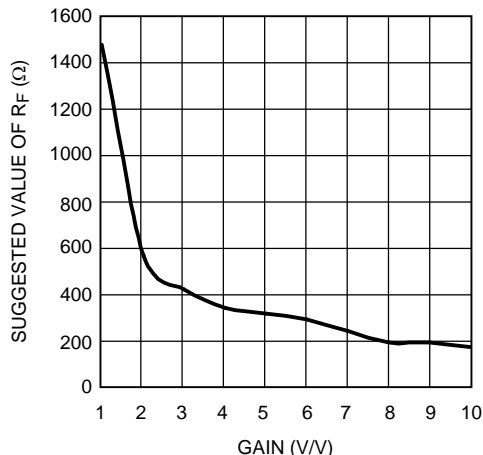

Figure 26. Suggested RF vs. Gain
The LMH6570 has a current feedback output buffer with gain determined by external feedback (RF) and gain set (RG) resistors. With current feedback amplifiers, the closed loop frequency response is a function of RF. For a gain of 2 V/V, the recommended value of RF is 576 Ω. For other gains, see Figure 26. Generally, lowering RF from the recommended value will peak the frequency response and extend the bandwidth while increasing the value of RF will cause the frequency response to roll off faster. Reducing the value of RF too far below the recommended value will cause overshoot, ringing and, eventually, oscillation.